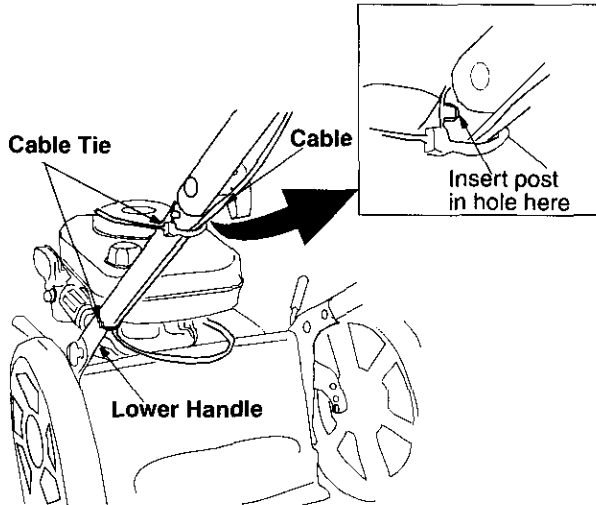

Figure 5
- Attach control cable to the lower handle with the two cable ties provided on the lower handle. Place posts on cable ties into the holes on the lower handle as shown below. Pull the cable ties tight and cut off extra. See Figure 5.